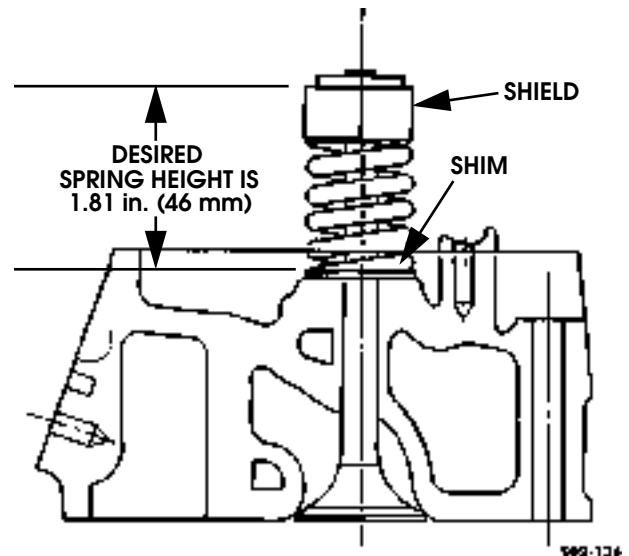

Figure 2-143: Installed Height of Valve Spring
- a. Use dividers and micrometer or vernier caliper (Figure 2-143).